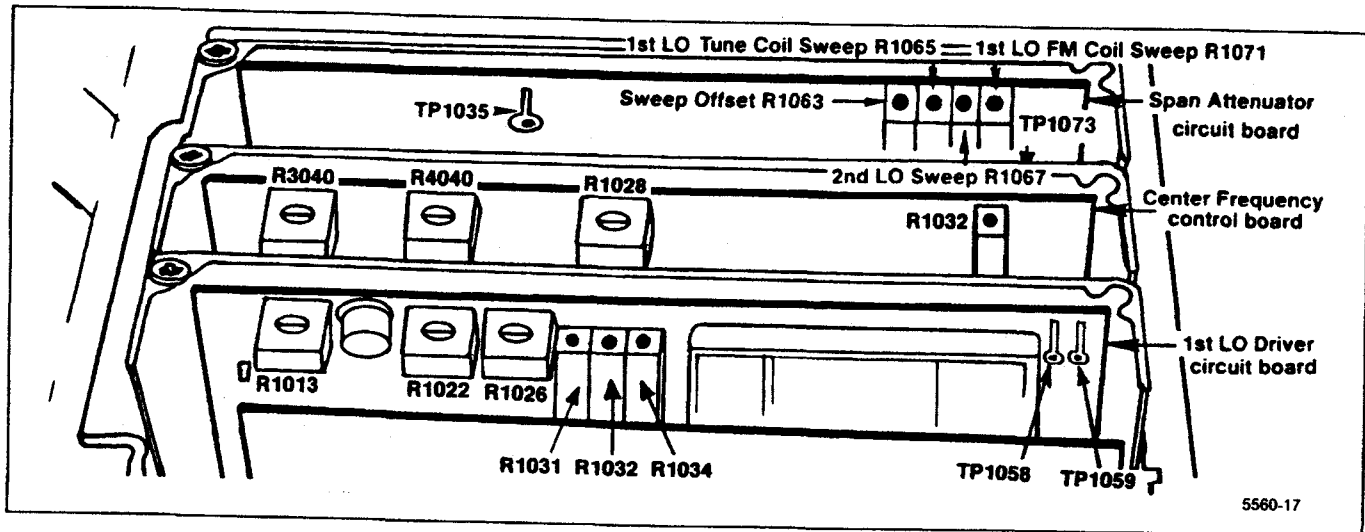

Figure 5-10. Frequency control system test point and adjustment locations.
b. Connect a shorting strap from TP1035, on the Span Attenuator board, to chassis ground (Figure 5-10). Monitor TP1073 on the Span Attenuator board with the voltmeter.
c. Adjust Sweep Offset R1063 (Figure 5-10) for 0.00 V.
d. Remove the shorting strap from TP1035. Press <Blue-SHIFT> PULSE STRETCHER and select item 1 (FREQUENCY LOOPS CAL), then item 0 (OVERALL SYSTEM) from the menus. Perform the calibration steps as directed ("CONNECT A DVM TO TP1058 ON THE 1ST LO DRIVER BOARD AND GROUND"), etc.
(1) If a "CALIBRATION STEP CANNOT BE COMPLETED" message is displayed, bypass the step, perform the other adjustments then return to the adjustment and try to bring the adjustment in range. If the problem persists, refer to Troubleshooting the Frequency Control System, in the Maintenance section.
(1) Apply the CAL OUT signal to the RF INPUT, set the FREQUENCY to 600 MHz, FREQ SPAN/DIV to 100 MHz, and set the REF LEVEL to display the markers.
(2) Adjust Tune Coil Swp R1065, on the Span Attenuator board (Figure 5-10) for one marker per division over the center eight divisions of the graticule. Reset the CENTER FREQUENCY as necessary to align the markers.
(3) Remove the Calibrator signal and apply 0.2  $\mu$ s time marks from the Time Mark Generator to the RF INPUT.
(4) Set the FREQ SPAN/DIV to 5 MHz, REF LEVEL to +10 dBm, and FREQUENCY to about 10 MHz.
(5) Adjust the 1st LO FM Coil Swp R1071 (Figure 5-10) for 1 marker/division over the center eight divisions of the display.
(6) Set the FREQ SPAN/DIV to 20 KHz and apply 50  $\mu$ s markers from the Time Mark Generator.
(7) Adjust the 2nd LO Sweep, R1067, for one marker/division over the center eight divisions.